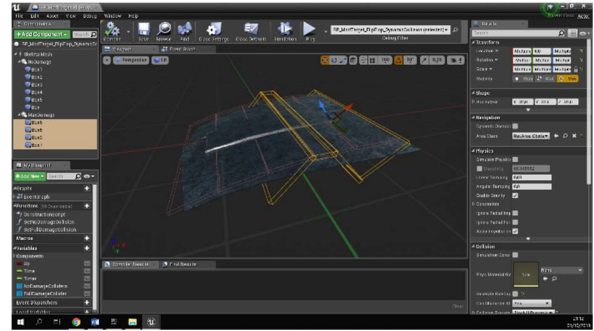

Figure 15
- Position colliders that physics objects can interact with when the object is fully damaged (figure 15)